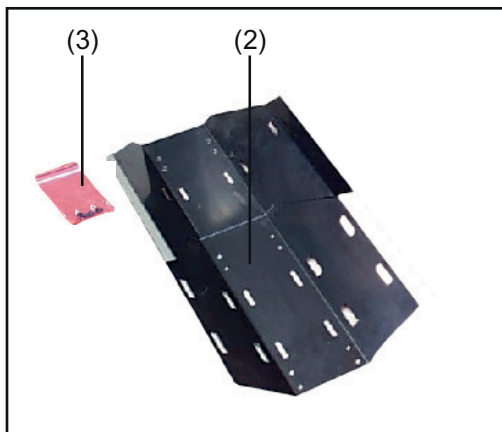
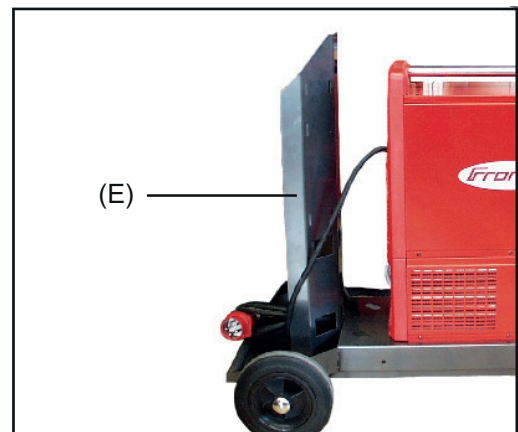

Fig. 2 Extension plate
Fig.3 Gas cylinder holder
To enable the auto-transformer to be fitted on the „PickUp“ trolley together with the FK 4000/FK 4000 R cooling unit and power source, the auto-transformer is supplied with an extension plate (2) (Fig.2) for the gas cylinder holder (E) (Fig.3).